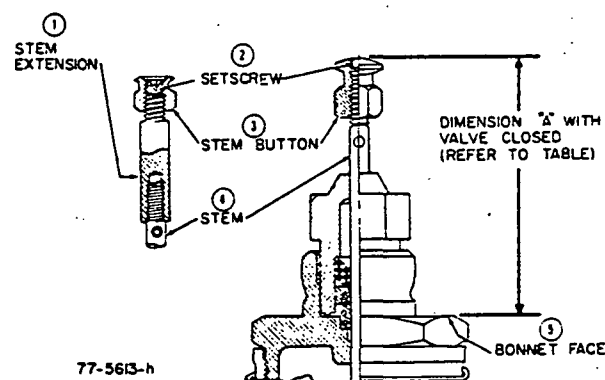

Fig. 8—Method of Determining Proper Stem Button Adjustment With or Without Stem Extension. Refer to Table 2.
2. Insert 1/16 in. dia. rod or nail in hole near top of stem and unscrew button. Do not tamper with top locking set screw in button. Also remove stem extension if one had to be used to adapt valve to operator. (See Table 2 and Fig. 8 to obtain proper bonnet face-to-button dimension if set screw was removed.)